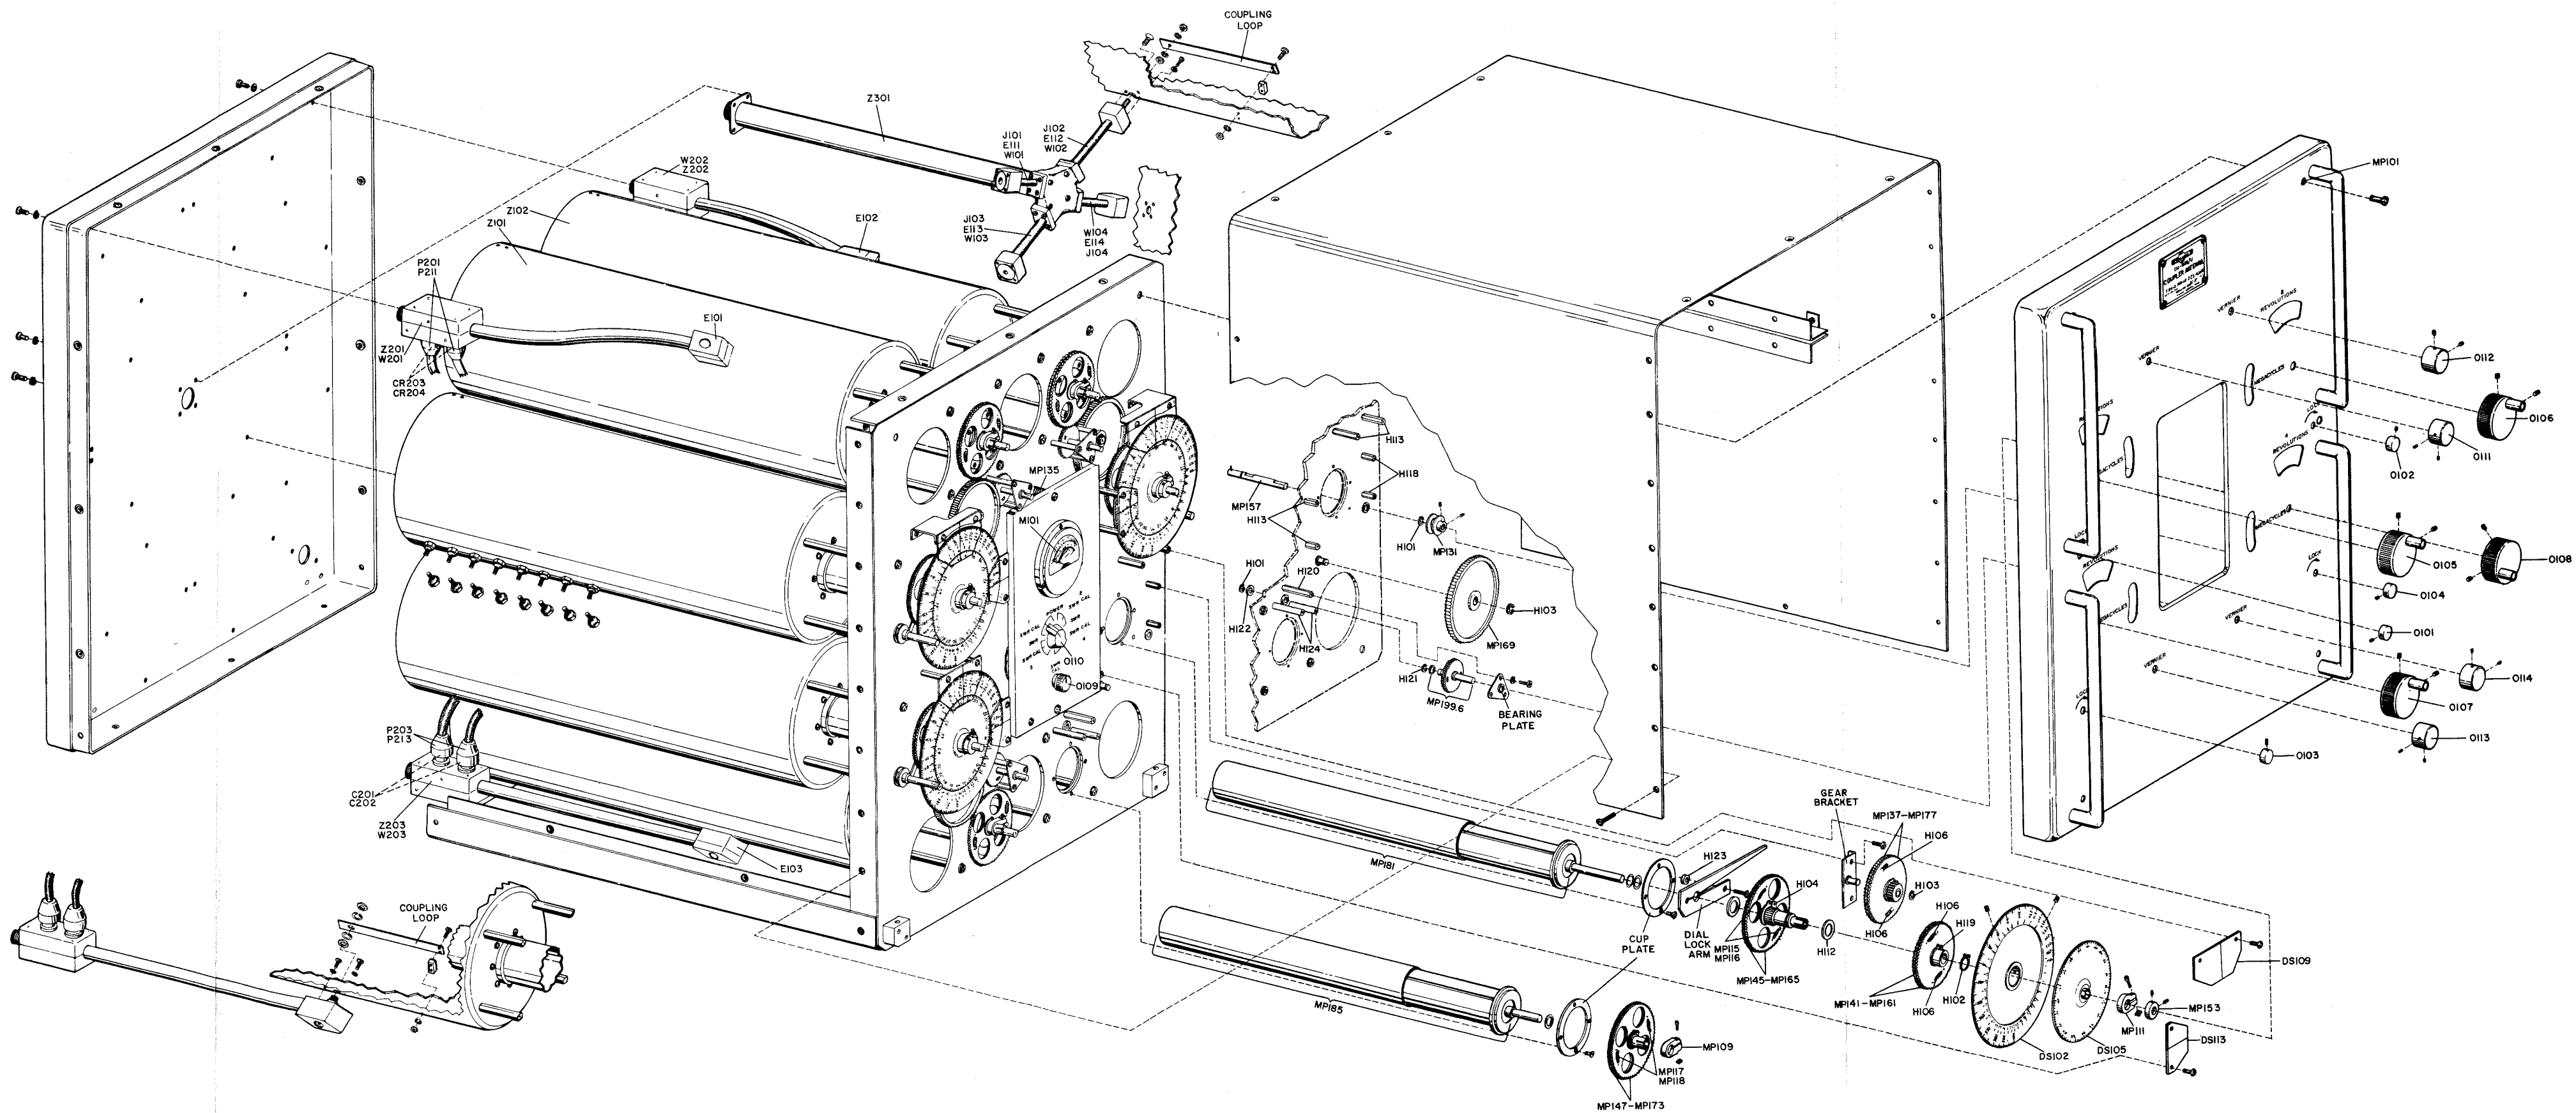

Figure 6-1. Antenna Coupler CU-691/U, Partial Exploded View
**b. REPLACEMENT AND REASSEMBLY PROCEDURES.** - (Refer to figure 6-1.)
(1) SWITCH PANEL. - To replace switch panel, reverse procedure given in paragraph 6-4.a.(9).
(2) TANDEM CAVITIES. - To replace tandem cavities, reverse procedure given in paragraph 6-4.a.(8).
(3) MONITOR COUPLER ASSEMBLIES. - To replace monitor coupler assemblies, reverse procedure given in paragraph 6-4.a.(7).